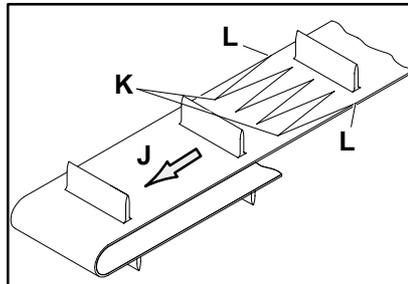

Figure 9: Replacement Belt Orientation Detail
Orient the replacement belt so the belt splice leading fingers (K of Figure 9) point in the direction of belt travel (J) and that the outside fingers (L) are positioned as shown.